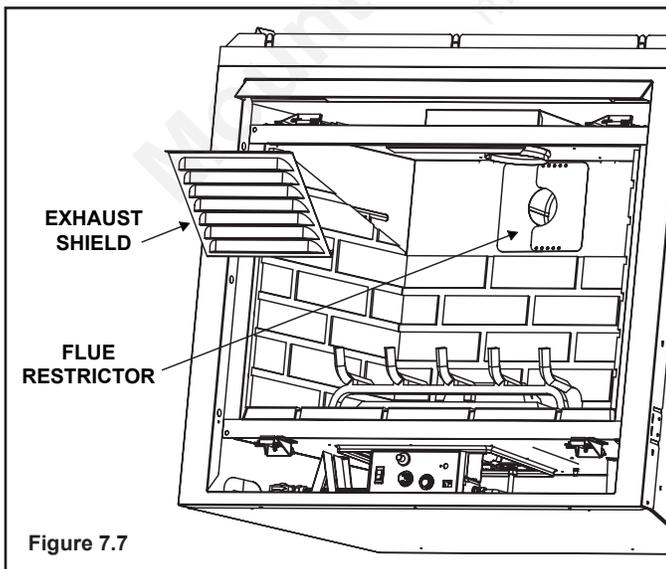

Figure 7.7
1. Remove Exhaust Shield using a 1/4 in. nut driver by removing the three screws securing it in place (see Figure 7.7).